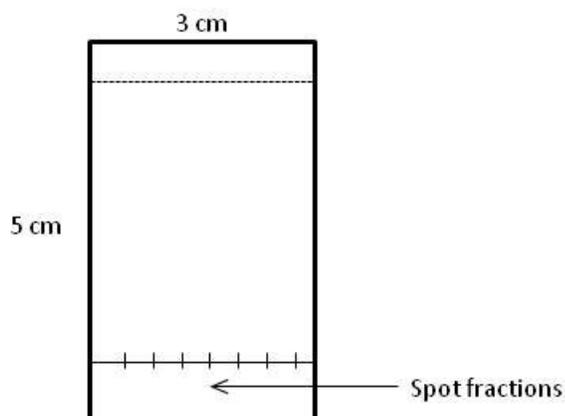

Figure 3.
33. Monitor the fractions from step 31 and 32 which were UV active or charred by TLC. Prepare a TLC plate as depicted in Figure 3. Spot the fractions on the baseline marks. Desiccate the plate then develop with eluent (EtOAc-MeOH-AcOH-H2O, 6:3:3:2). Note: The fractions from the aqueous wash should not contain product.